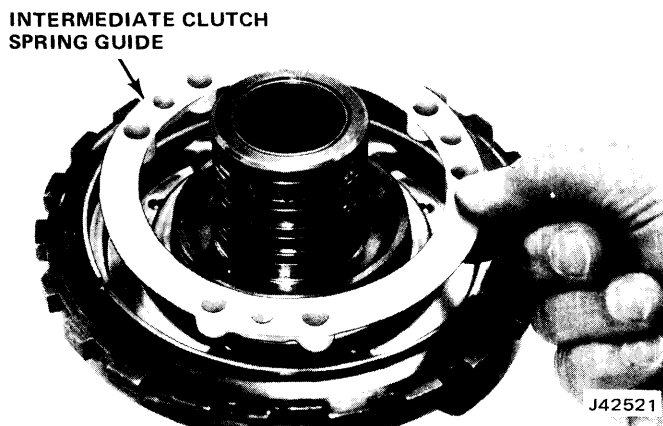

Fig. 7-97 Installing Spring Guide
(5) Install spring guide (fig. 7-97).